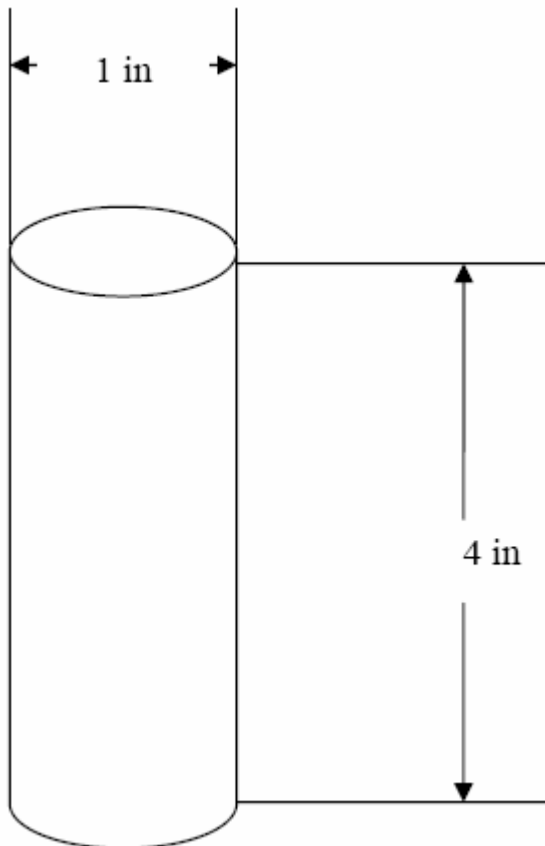

Figure 2—Mandrel
- 2.3 *Mandrel*, steel, aluminum, or brass; 1 in. (25.4 mm) diameter, minimum length of 4 in. (100 mm). See Figure 2.